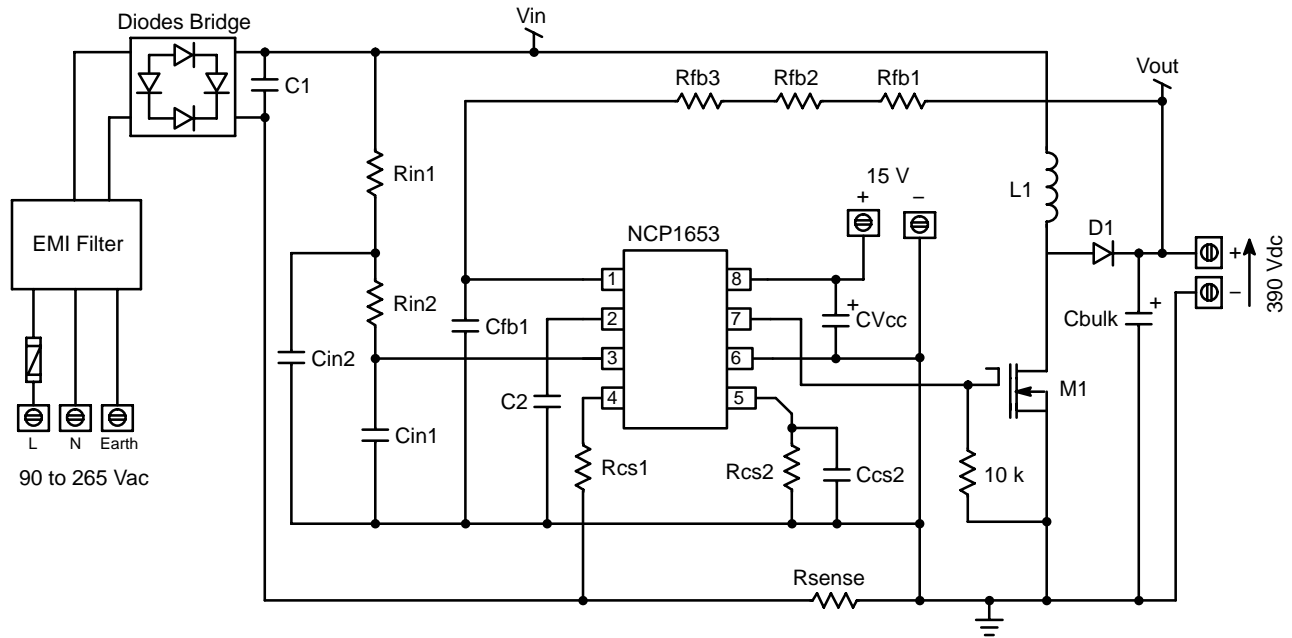

Figure 1. Generic Schematic
An Excel spreadsheet (based on the AND8184 application note, both being available at www.onsemi.com) automatically computes the external components necessary to build a PFC stage as portrayed by Figure 1.
- Choose R_{SENSE} and R_{CS1} of Figure 1 to set the maximum coil current limit.
(R_{SENSE} , R_{CS1} , R_{CS2} , R_{IN1} and R_{IN2} are represented in Figure 1)
A performance comparison has been performed between the Follower Boost and traditional modes using the application of Figure 1 (300 W, wide mains). The
measurements were made on the same boards. Simply the resistance of R_{CS2} ($R3$ of Figure 1) was doubled and the coil inductance halved (as a benefit of this technique) for the tests in follower boost mode.